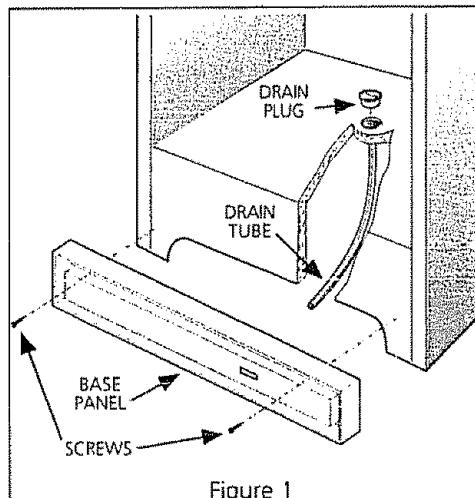

Figure 1
- Remove the base panel by unscrewing two screws from front of base panel. Remove wire from clips on bottom of cabinet. (Figure 1 below)
- Unplug connector by holding the cabinet connector in place, and pulling door connector out. (Figure 1 below)
- On **upright models** with a defrost drain (Figure 1), remove the drain plug on the inside floor of the freezer by pulling straight out. To access the external drain tube on models with a base panel, first remove the two screws from the base panel. Locate the drain tube near the left center under the freezer. Place a shallow pan under the drain tube. Defrost water will drain out. Check pan occasionally so water does not overflow. A one half inch garden hose adapter can be used to drain the freezer directly into a floor drain. If your model is not equipped with an adapter, one can be purchased at most hardware stores. Replace the drain plug when defrosting and cleaning are completed. If the drain is left open, warm air may enter the freezer.